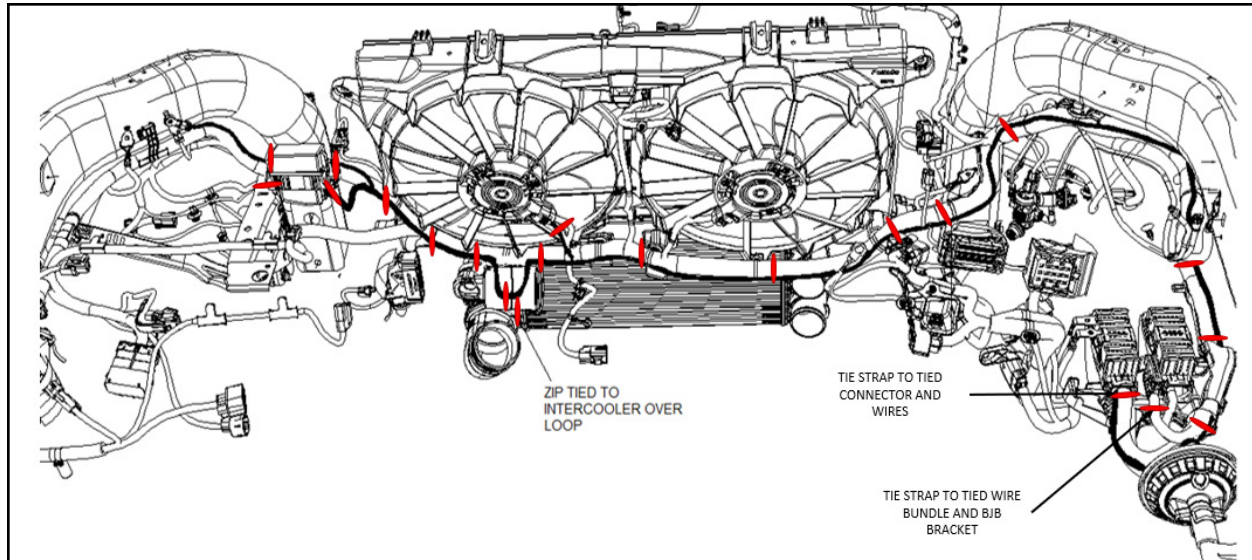

FIGURE 17
Figure 17 shows the placement of the zip ties needed to bundle the aux box harness to the 14290. Zip tie placement is critical. Please follow areas highlighted in red for placement.
24. Following the routing procedure in Figure 17, be sure to loop the aux box harness and secure it to the intercooler. See Figure 20.